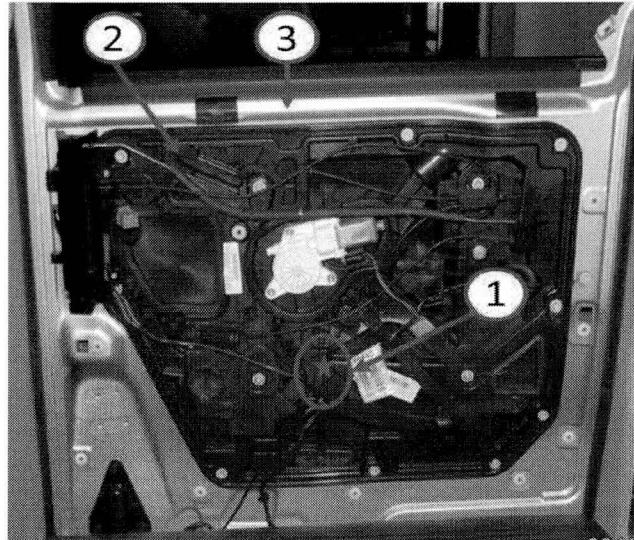

Fig. 4 Door Module Preparation
- Carefully drill a 5/16" (8mm) hole through door module at the center of the formation/standoff (1) directly above the door module (if equipped) or just forward of the part number tag (Fig. 4).